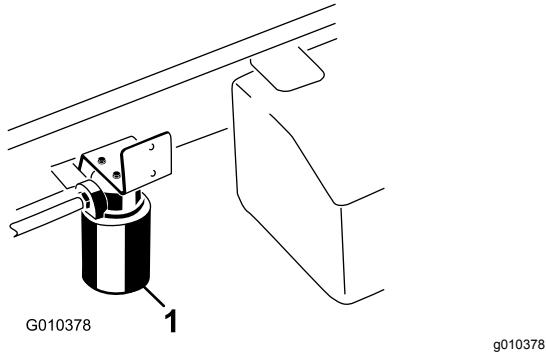

Figure 64
3. Place a drain pan under the filter and remove the filter (Figure 64).